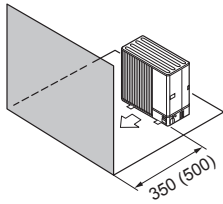

Fig. 1-9
- ④ Obstacles at front only (Fig. 1-9)